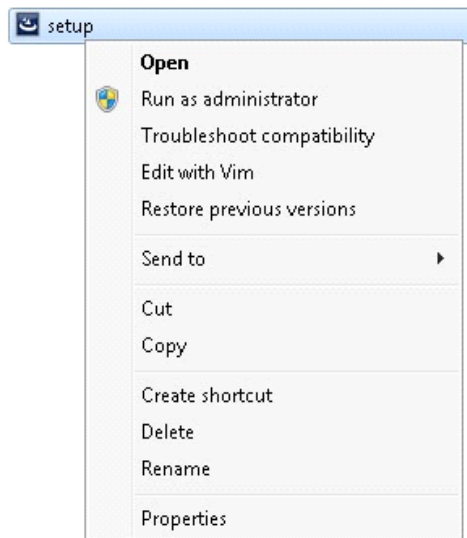

Figure 2-2: Run Setup File to Install Drivers
1. From the Windows explorer, navigate to the folder in which the reference design is downloaded (<dir>\kcu105\_aximm\_dataplane\software\windows\) and run the setup file with Administrator privileges, as shown in Figure 2-2.